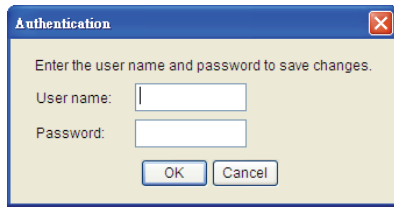

Figure 3. Authentication window.
7. You will need to enter a User Name and Password for the Remote Management Card in the authentication window, as shown in figure 3.